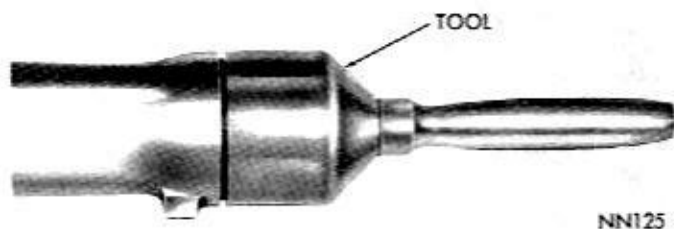

Fig. 36—Installing Extension Housing Seal
(d) To install a new seal, position seal in opening of extension housing and drive it into housing with Tool C-3972 (Fig. 36).
(4) To install a new seal, position seal in opening of extension housing and drive it into housing with Tool C-3972 (Fig. 36).
(5) Carefully guide front universal joint yoke into extension housing and on mainshaft splines. Connect propeller shaft to rear axle pinion shaft yoke aligning the marks made at removal.
(6) Fill transmission to level of fill plug (Refer to Lubrication Section).